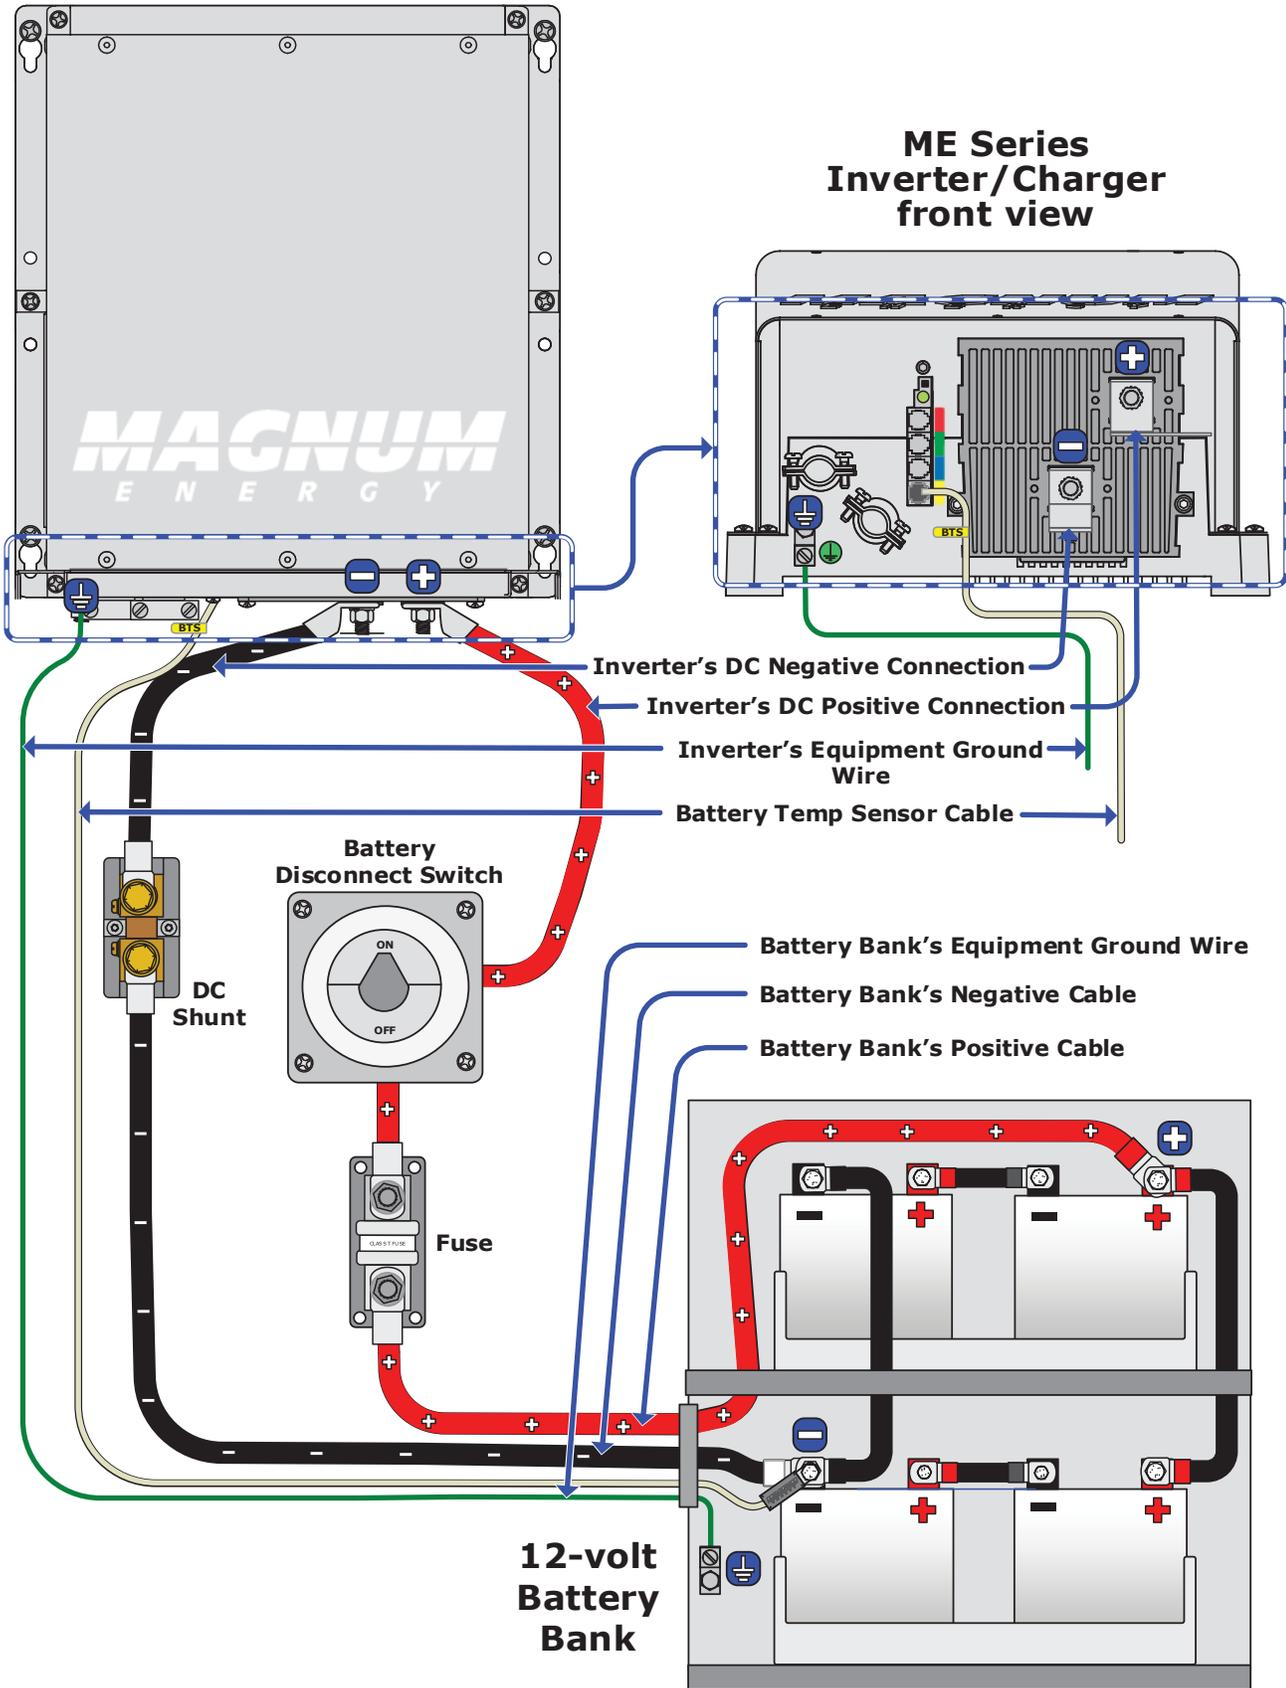

Figure 2-5, DC and Battery Temperature Sensor Wiring
This section describes the inverter's required DC wire sizes, the recommended disconnect/overcurrent protection, and how to make the DC connections to the inverter and the battery bank. Refer to Figure 2-5 when connecting the DC wires.
1. Attach the ring terminal end of the Battery Temperature Sensor to the negative battery terminal; see Figure 2-5 for proper connection to the battery terminal.
6. Ensure the DC wire connections (on the batteries, inverter, and DC circuit breaker/fuse lugs) are flush on the surface of the DC terminals, and the hardware (lock washer and nut) used to hold these connections are stacked correctly (Figures 2-5 and 2-6). Verify all DC connections are torqued from 10 to 12 lbf-ft (13.6 to 16.3 N-m).